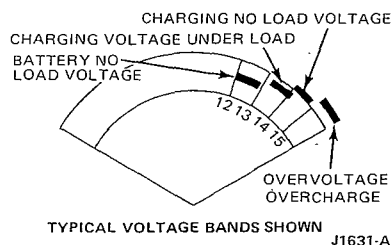

FIG. 3 Voltmeter Test Scale
6. Increase the engine speed to 2000 rpm. The voltmeter should indicate a minimum of 0.5 volt above the first recorded battery voltage (Figure 3).